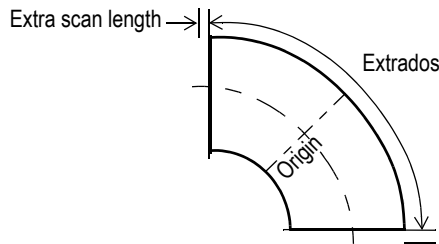

Figure 3-2 Extrados — maximum outer elbow curve length
1. Measure and record your elbow's *extrados* (maximum, outer elbow curve length on surface; see Figure 3-2 on page 31).